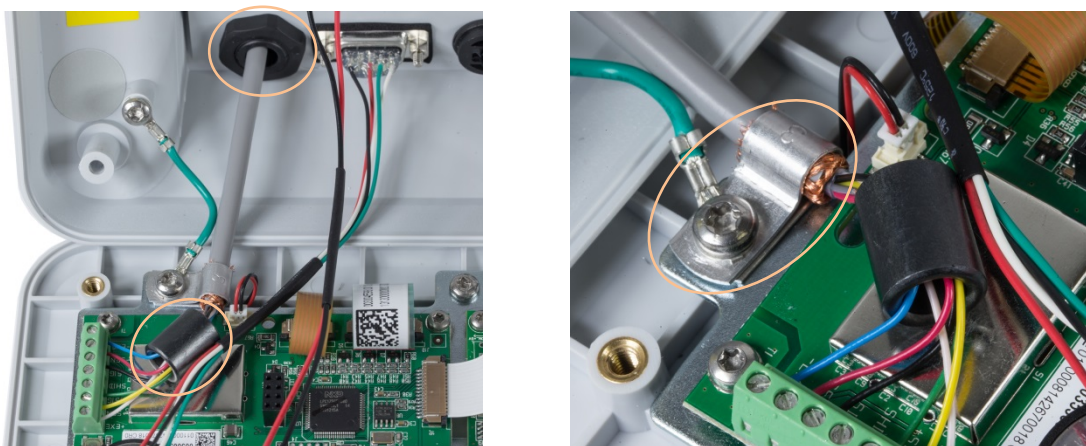

Figure 2-27: Analog Load Cell Cable Ferrite Installation and Chassis Grounding, IND231
9. The load cell cable enters the housing through the cable gland indicated in Figure 2-27.
12. The grounding clip supplied with the terminal is used to connect the exposed shield (Figure 2-26) to the metal mounting plate using the enclosure hinge wire attachment screw, as shown in Figure 2-27.